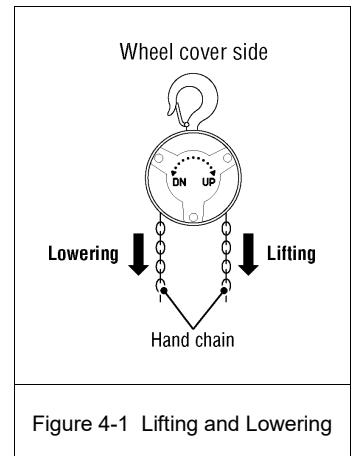

Figure 4-1 Lifting and Lowering
- 4.2.1 Refer to the arrows and text on the hand wheel cover – see Figure 4-1.